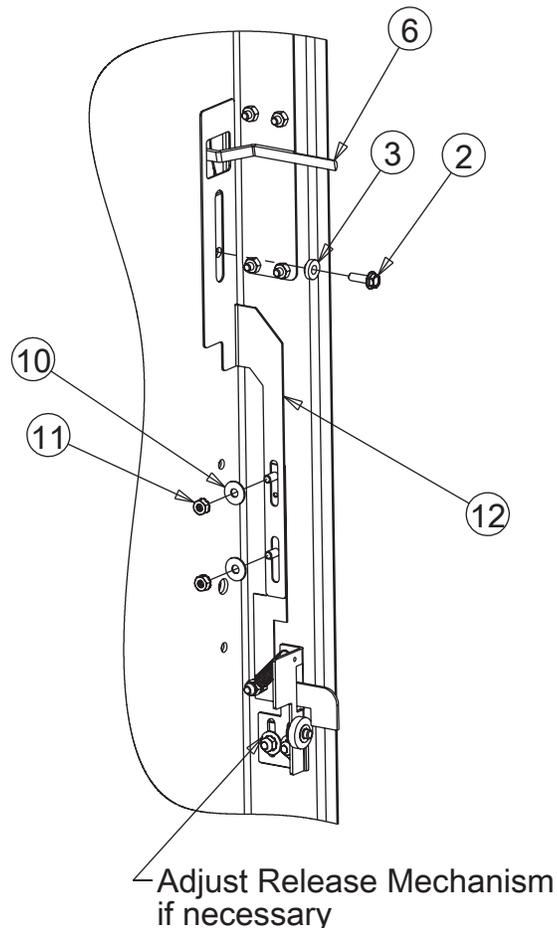

Figure 4
1. Referring to Figure 4, check the adjustment of the factory-installed control enclosure release mechanism, verify that the top of the door latch contacts the latch stop when the door is closed and the handle is fully latched.